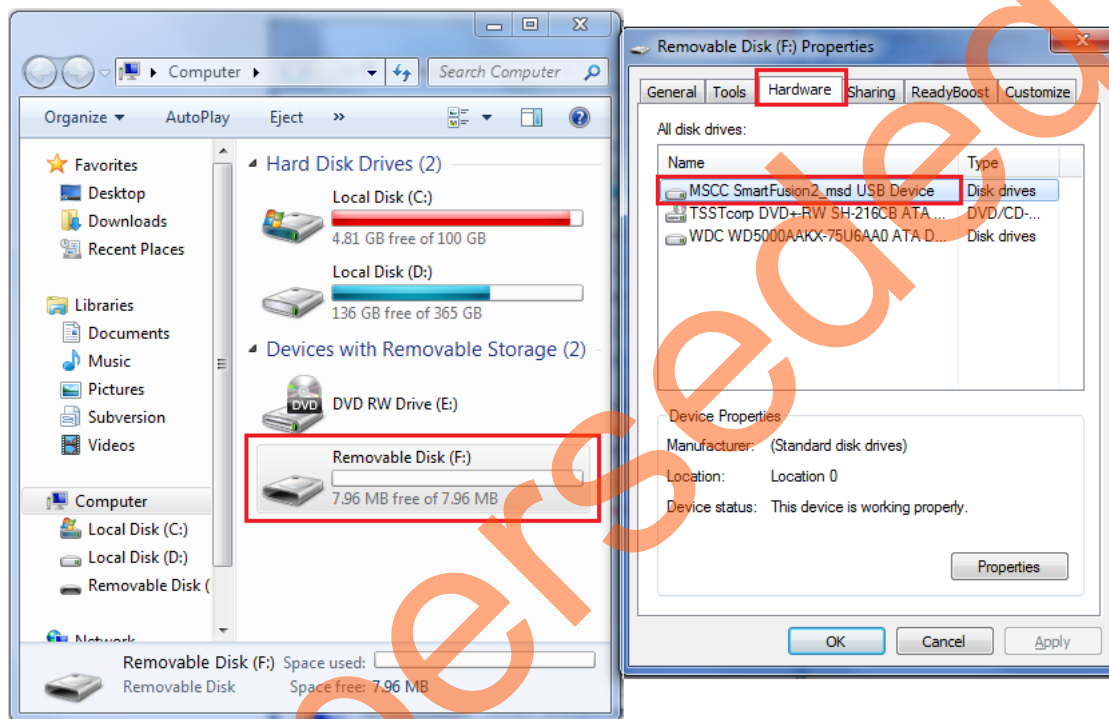

Figure 9 • SmartFusion2 USB Device Detection on Host PC/Laptop
2. Right-click the drive and select properties as shown in Figure 9 to verify the USB device functionality of the SmartFusion2 USB OTG controller.